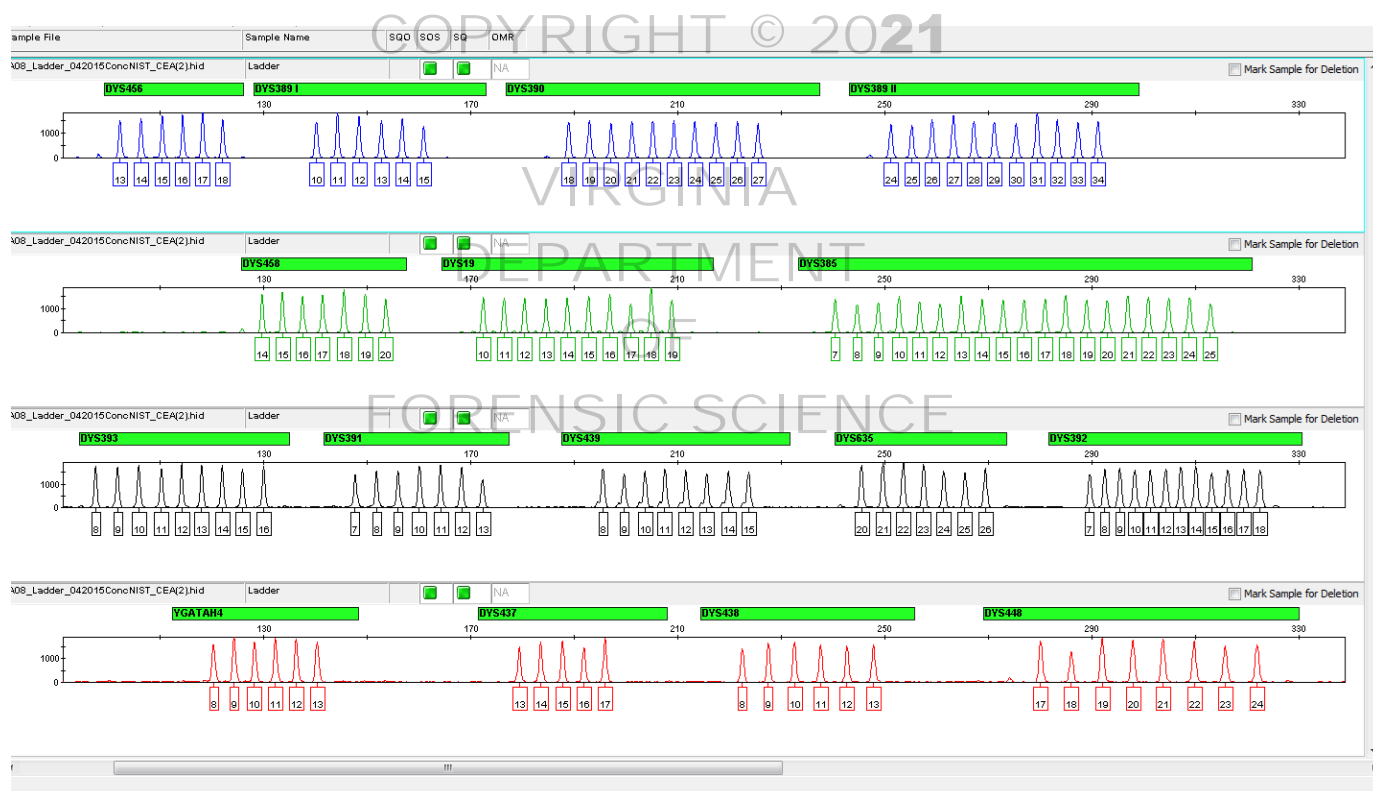

Figure 2. AmpfSTR® Yfiler™ Allelic Ladder
3.3.2 Verify that the allelic ladder is called correctly for each locus. Figure 2 represents an example of an AmpfSTR® Yfiler™ allelic ladder.